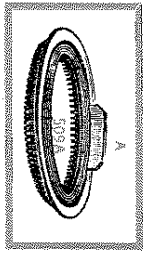
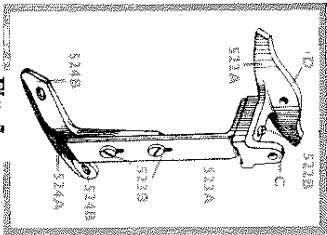

Fig. 4
Fig. 7
The gear-ring (Fig. 4) works in the base, having on its underside cogs which fit in the cogs of the driving wheel (503A). The projecting part (a) to which the yarn-guide is secured drives the cam shell
Fig. 7, the combination yarn-guide and latch-opener (522A), is secured to an upright (523A) by two screws (523B), the screw holes are slotted so that the yarn-guide can be raised or lowered to the required position to suit the needles. The bracket is screwed to the gear-ring at A (Fig. 4). Screw (522B) is to adjust the yarn-guide towards or away from the needles. The yarn is threaded from the back, first through hole (C) then through hole (D).